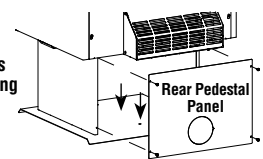

Figure 6B - Typical Installation
Manufactured Home Installations *(ref. Figure 6B)*
1. **(Manufactured Home Installations Only)** Secure stove to floor per instructions in **Figure 6B** on **Page 10**.
See **Figure 6B** on **Page 10** for additional Manufactured Home requirements.